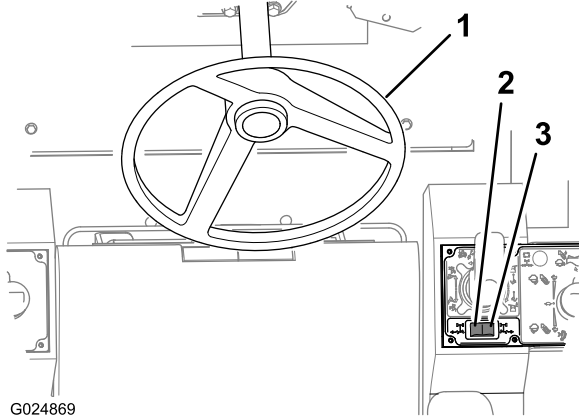

Figure 41
Use the steering wheel to control the front-wheel steering (Figure 41).
- Push the rocker switch for the rear-wheel steering (Figure 41) on the right half of the switch to turn the rear wheels to the right (turn left).
- Push this rocker switch for the rear-wheel steering (Figure 41) on the left half of the switch to turn the rear wheels to the left (turn right).